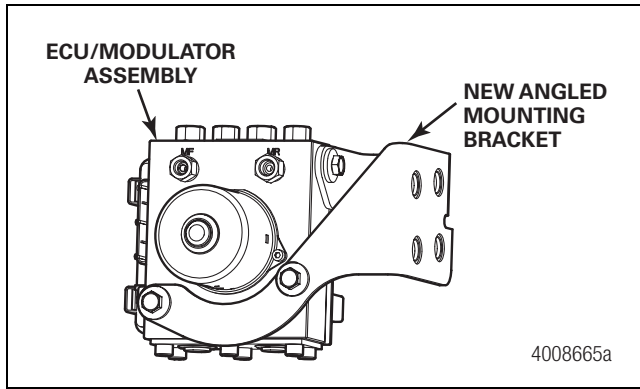

Figure 1
3. Install the new ECU/modulator assembly and bracket provided in the kit onto the vehicle. Use the existing mounting hardware. Tighten the four mounting screws to OEM torque specification. Figure 1.